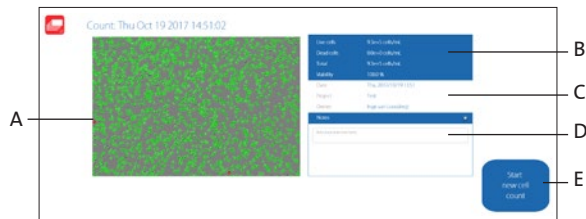

Figure 19. Overview of the result page
3. The CytoSMART™ Cloud App will now analyse the image and present the results. Within the analyzed image (Figure 19), you will see green and red circles (A). Green circles represent living cells, red circles are dead cells. Next to the image, the number of (live and dead) cells is displayed (B) together with experiment data (C).
4. In this window you can also add notes (D). These will be included in the CytoSMART™ Connect environment.
5. If you want to perform another cell count, simply press “Start new cell count” (E).